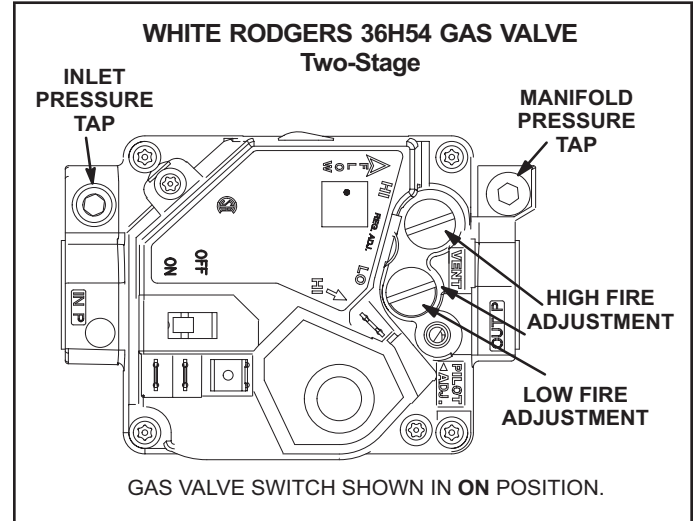
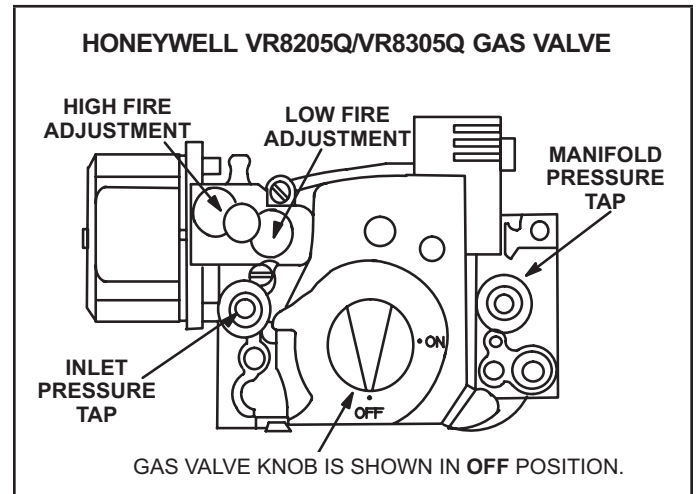

FIGURE 30
FIGURE 31
## Gas Valve Operation for Honeywell VR8205Q/VR8305Q and White Rodgers 36H54 (FIGURE 30 and FIGURE 31).
- 6 - Turn gas valve switch to **OFF**. See FIGURE 30. On Honeywell VR8305Q gas valves, turn the knob on the gas valve clockwise to **OFF**. Do not force. See FIGURE 31.
- 7 - Wait five (5) minutes to clear out any gas. If you then smell gas, **STOP!** Immediately call your gas supplier from a neighbor's phone. Follow the gas supplier's instructions. If you do not smell gas, go to the next step.
- 8 - Turn gas valve switch to **ON**. See FIGURE 30. On Honeywell VR8305Q gas valves, turn the knob on the gas valve counterclockwise to **ON**. Do not force. See FIGURE 31.